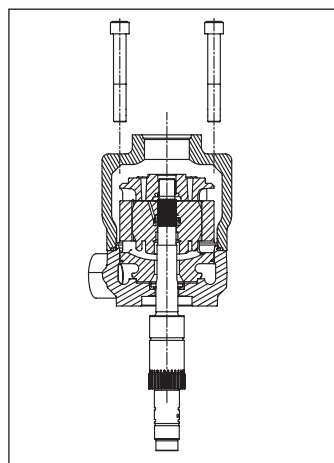

Figure 41
2. Unscrew the 4-Bolts (**Fig. 41**).